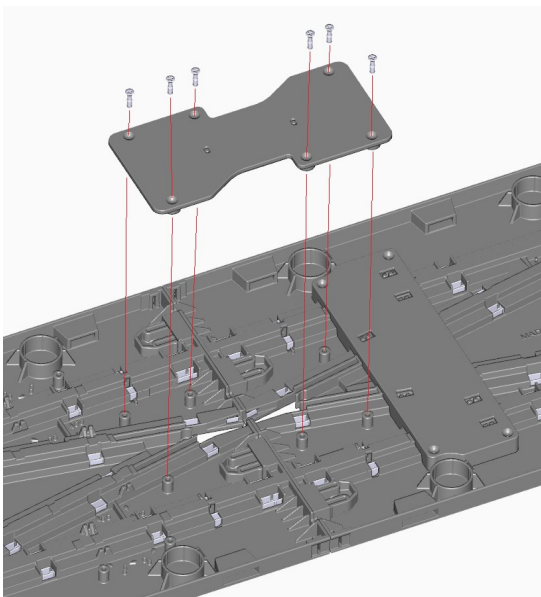

Figure 4
2. Place them upside down and screw the 'gate mechanism' on (*Figure 4*).